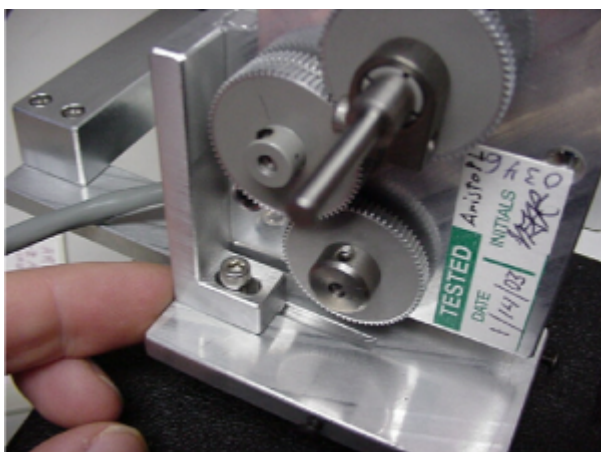

Figure 9
4. After securely tightening the fine focus shaft clamp as shown in figure 5. Loosen the back plate clamp shown in figure 8 and adjust it so that the drive is aligned as shown in figure 9 and the vertical adjustment screws are also centered as shown in figure 10. When in position, tighten the back plate clamp as shown in figure 8 & 11 to hold the back plate in the correct position.
5. Tighten the vertical and horizontal adjustment screws in their mid positions as shown in figures 9 & 10.